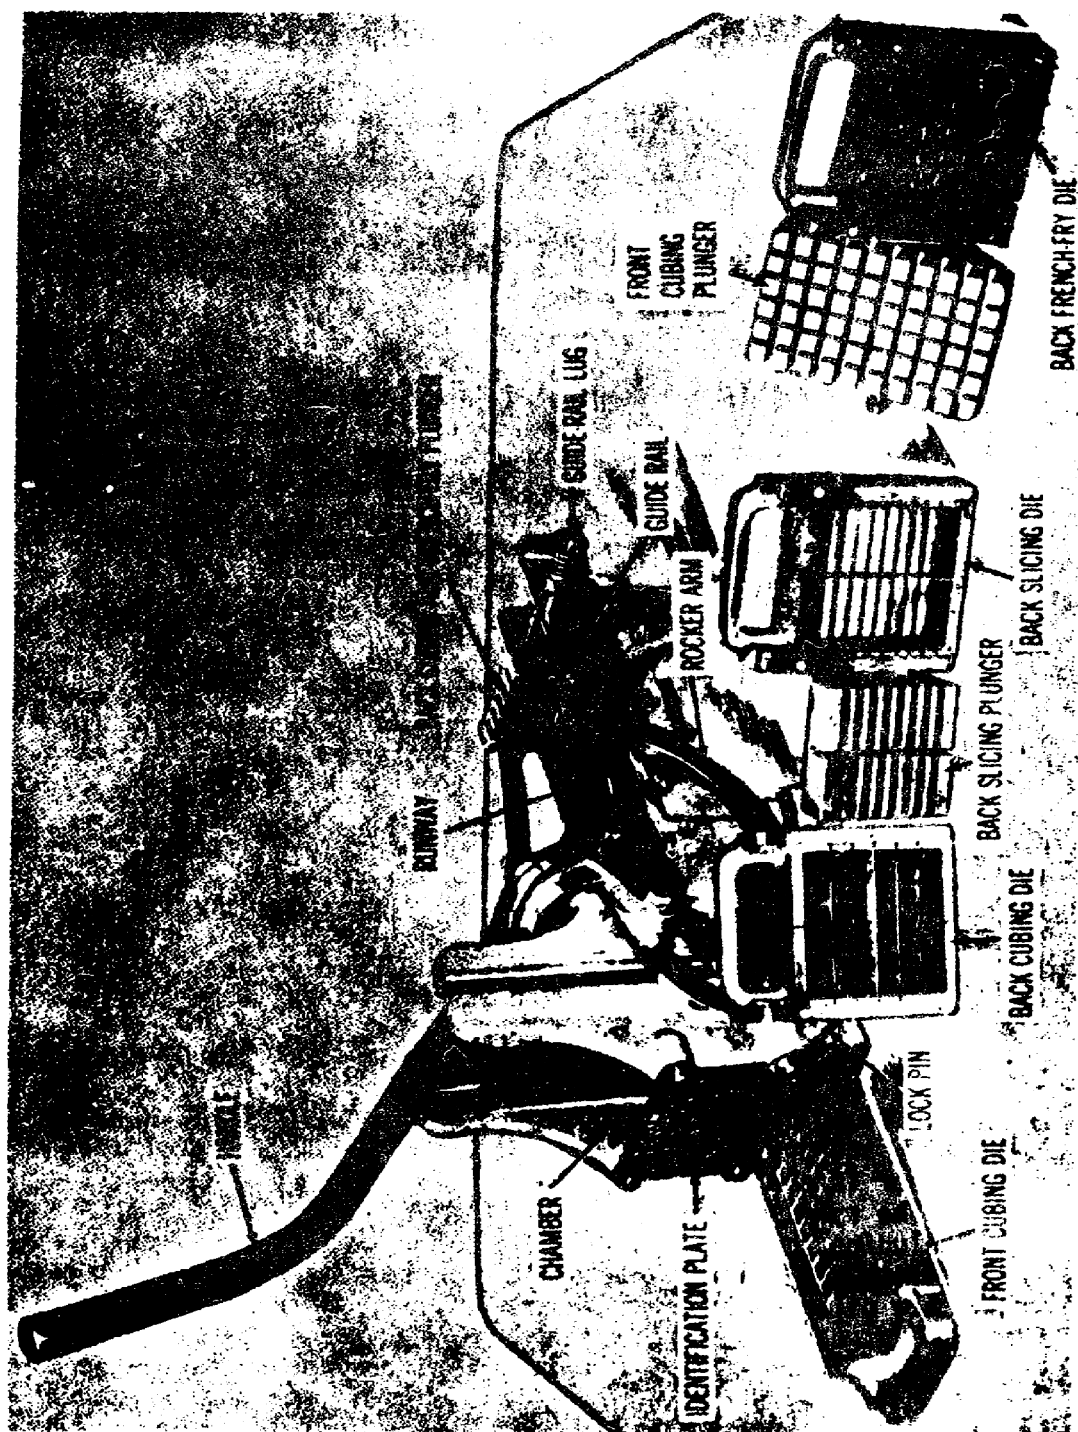

Figure 6. Vegetable-cutting machine.
4. **VEGETABLE-CUTTING MACHINE.** This is a hand-operated machine that cuts, slices, and cubes firm vegetables (fig. 6). The cutter consists of a frame, handle assembly, runway, chamber, and an assortment of dies and plungers which determine the type of cut.